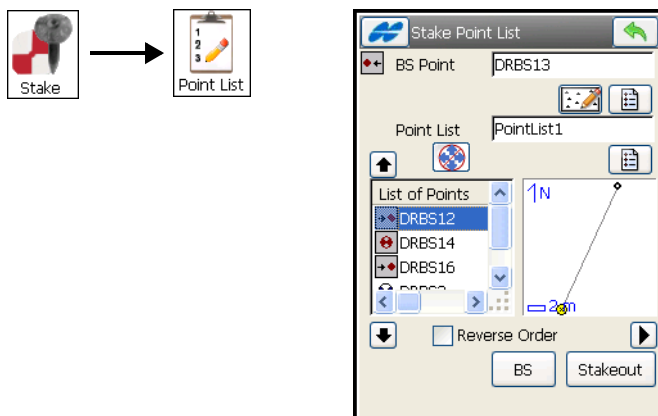

Figure 9-66. DL Stake Point List
1. To stake out elevations at design points in a point list, tap **Stake ▶ Point List**. The *Stake Point List* screen displays (Figure 9-66).